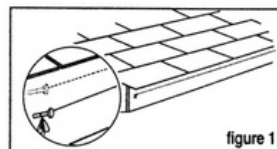

figure 1
Slope the gutter (1) toward the downspout (2) with a 1" drop for every 40 horizontal feet. Tack the string to the fascia board 3/4" below the shingles (figure 1). Stretch the string taut to the downspout end of the gutter and also tack it 3/4" below the shingles. Measure down the small distance needed to achieve a drop of 1" in 40' and re-tack the string at the low end.